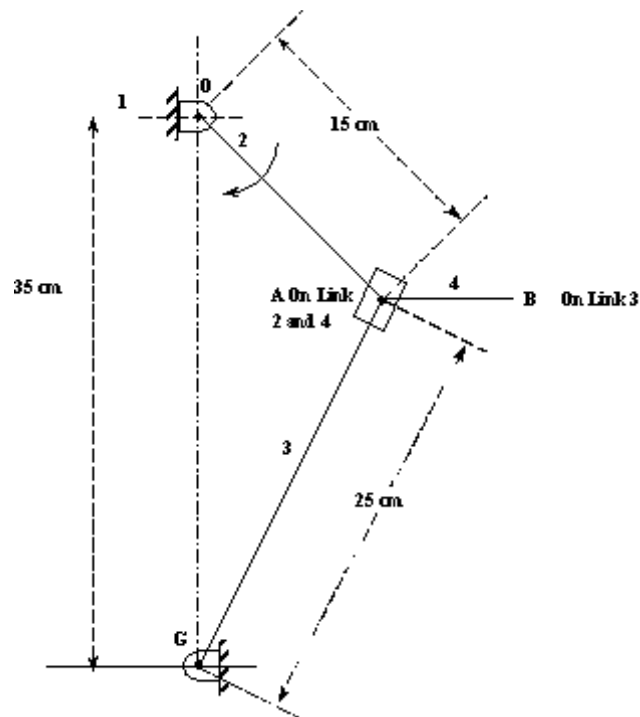

Figure 3
3. A quick return mechanism is shown in Figure 3 below. Link 2 rotates uniformly at 20 rad/sec. Draw the acceleration polygon. Find the absolute acceleration of point B. [16]